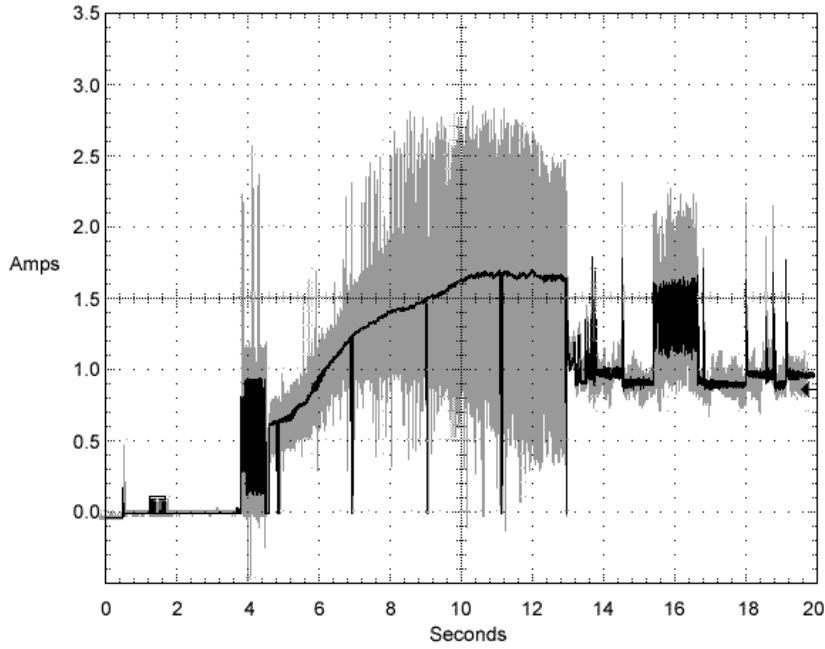

Figure 2. Typical ST3300655SS drive +12V current profile
- [3] See +12V current profile in Figure 2.